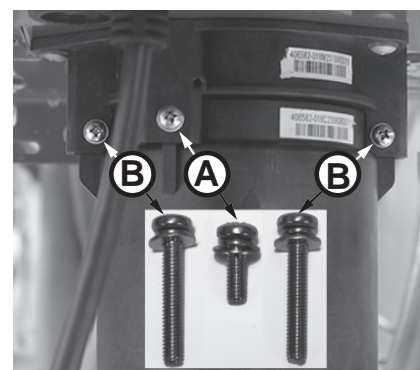

Figure 200 - Identify cartridge screws
**5** Locate the three (3) screws securing the X3®/Bypass cartridge as shown in Figure 200. Remove the **(A)** M4-12mm screw and the two **(B)** M4-25mm screws from cartridge. Place screws aside in a safe place for reinstallation.